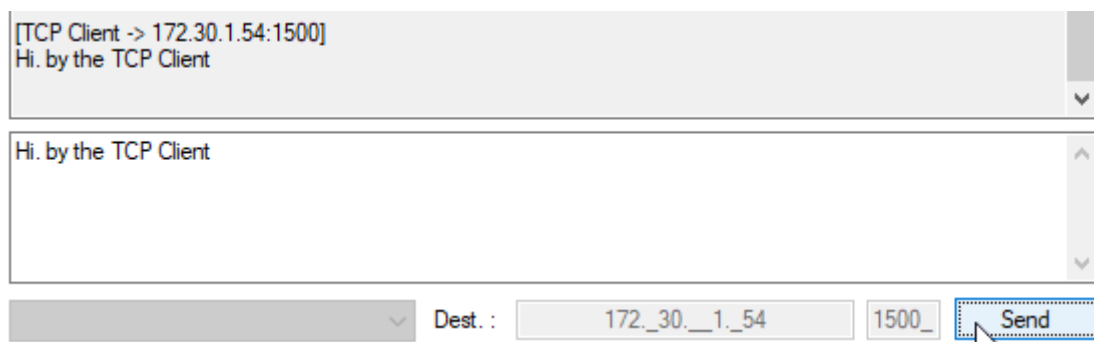

Figure 30. TCP client data transfer
3. Click the **Send** button (see Figure 30).